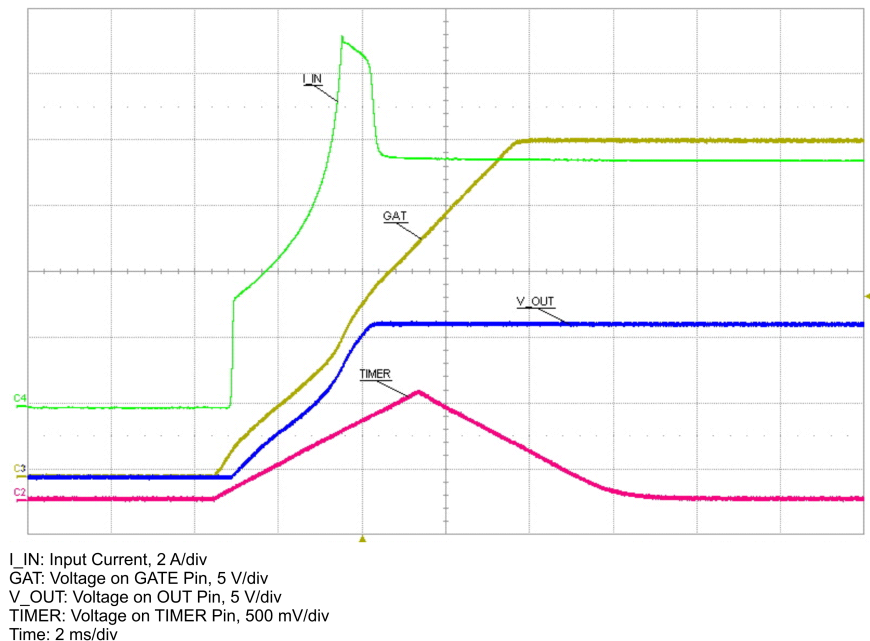
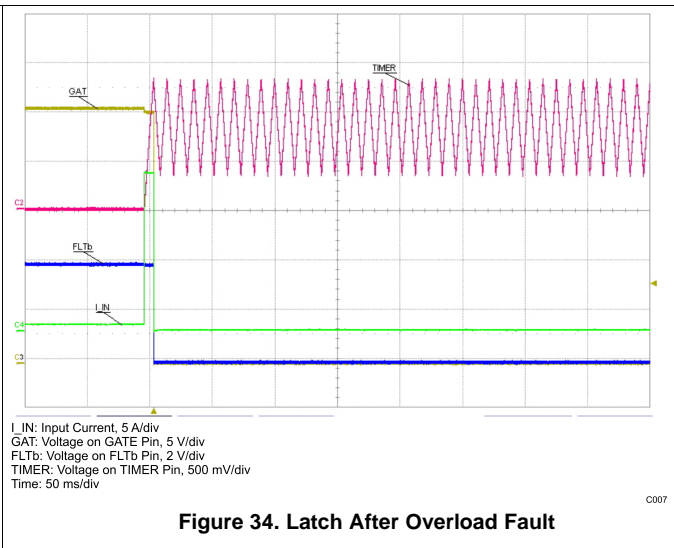

Figure 27. Inrush Mode at Hot-Swap Circuit Insertion
Figure 34. Latch After Overload Fault
The *Typical Application (12 V at 10 A)*, and oscilloscope plots shown in Figure 27 through Figure 29 and Figure 31 through Figure 34, demonstrate many of the functions described previously.
Figure 27 and Figure 28 illustrate the inrush current that flows when a hot swap board under the control of the TPS24710/11/12/13 is plugged into a system bus. Only the bypass capacitor charge current and small bias currents are evident when a board is first plugged in. The TPS24710/11/12/13 is held inactive, for a short period while internal voltages stabilize. During this period GATE, PROG, TIMER are held low and PG, FLT, PGb, and FLTb are held open drain. When the voltage on the internal VCC rail exceeds approximately 1.5 V, the power-on reset (POR) circuit initializes the TPS24710/11/12/13 and a start-up cycle is ready to take place.
- In latch mode, the GATE remains low and the TIMER pin continues to charge and discharge the attached capacitor periodically until TPS24710/12 is disabled by UVLO or EN as shown in Figure 34.